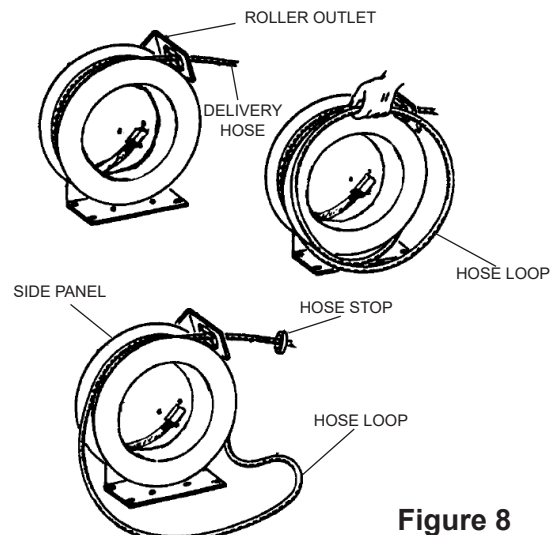

Figure 8
4. Wearing **Heavy Leather Gloves**, firmly grasp the outside edge of the spool with both hands. Let the spool rotate slowly through your hands until the spool stops. When the spool stops the spring tension will be released. The hose can now be unwrapped and removed from the reel (figure 8).
NOTE: Wraps can always be added or subtracted from a hose reel with the control handle and bumper stop attached. Simply pull the hose out enough to allow the stop pawl to engage the ratchet. Pull the last loop of hose off the side panel of the hose reel. This will remove (1) wrap of spring tension. To add tension, pull the hose out further -a few feet -and then lock in place by allowing the stop pawl to engage the ratchet. This will allow you the slack to wrap (1) loop back onto the hose reel, thus adding (1) wrap of spring tension (see figure 8).